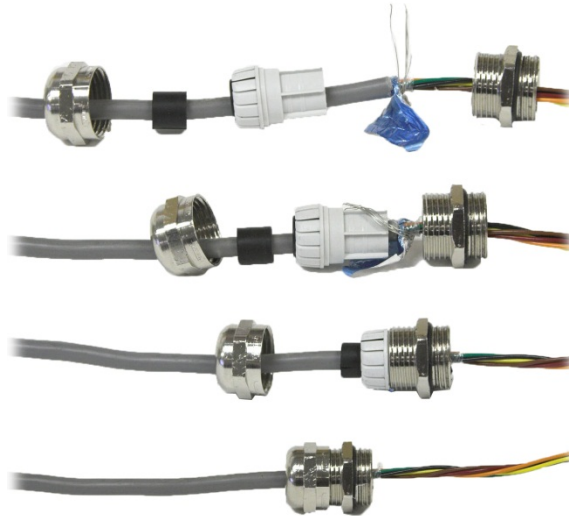

Figure 2-21: Cable Shield Grounding
5. Cable shielding should be grounded to the IND570's enclosure by spreading the shield wires as shown at the top of Figure 2-21, then folding them back over the plastic component of the cable gland before pressing it into the threaded body.